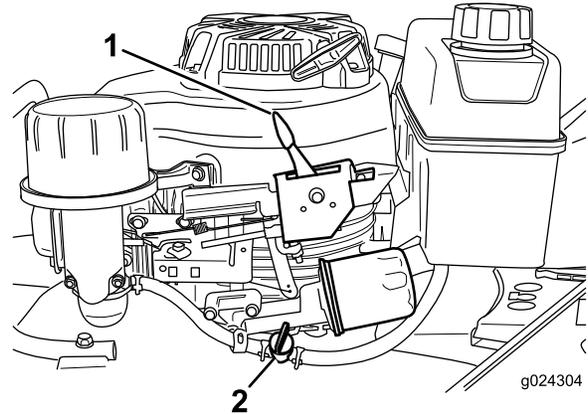

Figure 16
2. Open the fuel valve by moving the fuel-valve lever to the **right** (Figure 16).
**Note:** Close the fuel valve by moving the fuel-valve lever (Figure 16) to the **left** if you will not be starting the engine soon afterward.